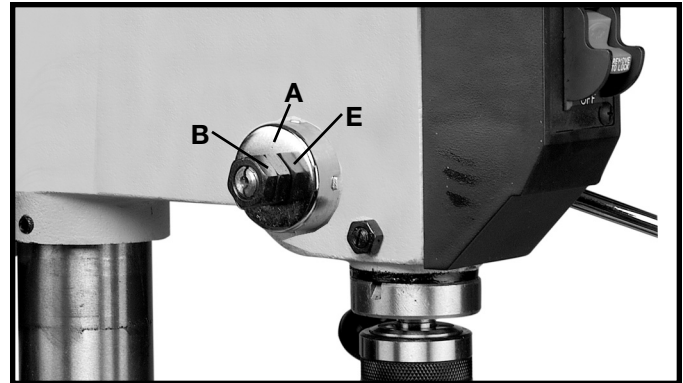

Fig. 30
1. Loosen nuts (B) and (E) Fig. 30. Make sure spring housing (A) stays engaged with head casting.